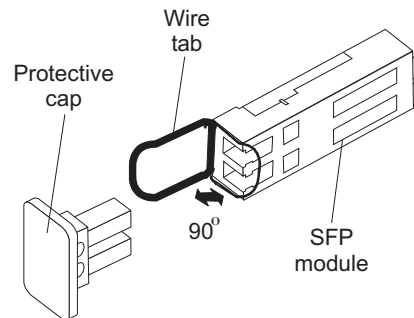

Figure 26. Unlocking the SFP module latch - wire variety
- For SFP modules that contain wire tabs, unlock the SFP module latch by pulling the wire latch outward 90°, as shown in Figure 26.